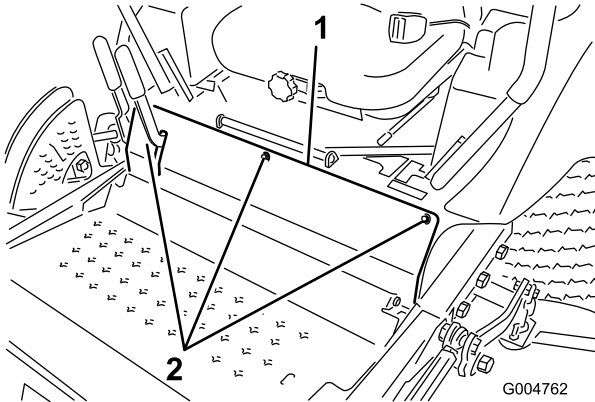

Figure 55
2. Remove the bolts securing the front panel and remove the panel (Figure 55).